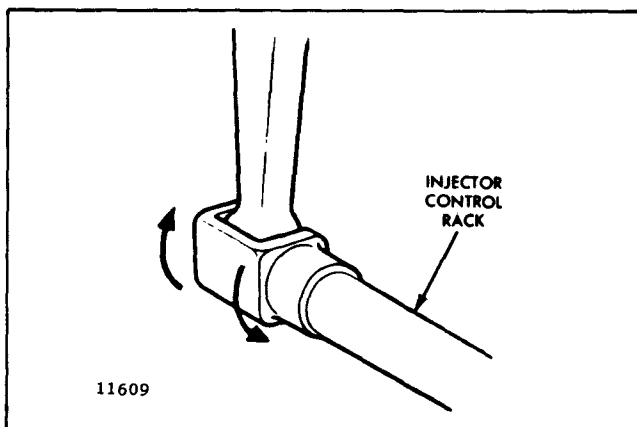
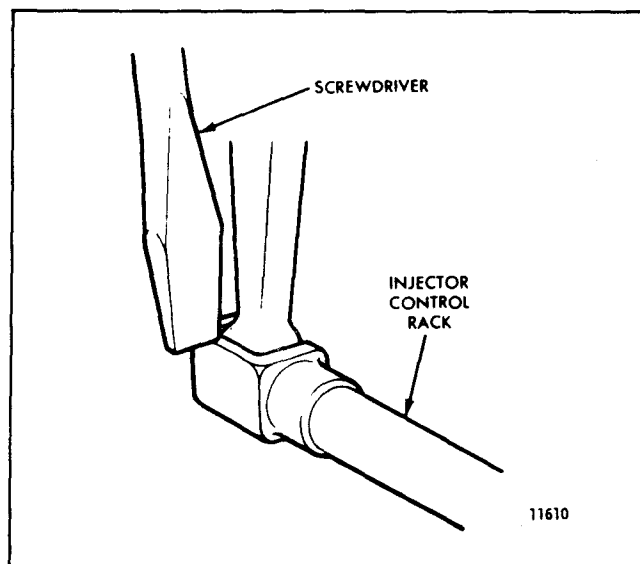

Fig. 3 - Checking Rotating Movement of Injector Control Rack
Fig. 4 - Checking Injector Control Rack Movement
6. To be sure of the proper adjustment, hold the speed control lever in the full-fuel position and press down on the injector rack with a screw driver or finger tip and note the "rotating" movement of the injector control rack (Fig. 3). When the speed control lever is in the maximum speed position, hold the speed control lever in the maximum speed position and, using a screw driver, press downward on the injector control rack. The rack should tilt downward (Fig. 4) and when the pressure of the screw driver is released, the control rack should "spring" back upward.